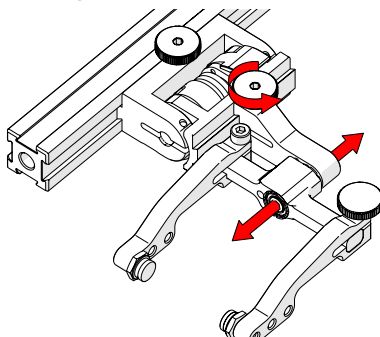

Fig. 153 - Adjust swing arm
3. Use the swing arm knob to position the swing arm (Fig. 153).